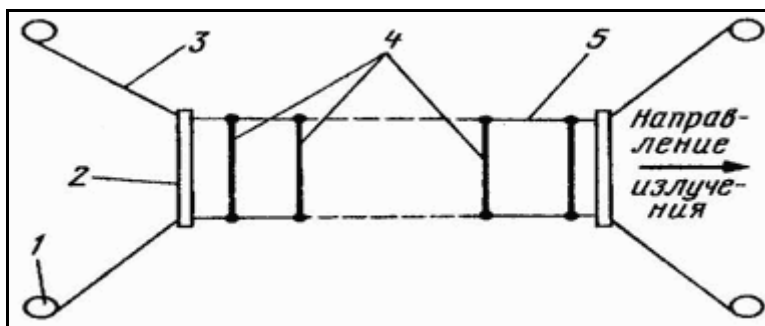

Figure 6
For proving the constructive reliability You can put a pair of supporting frames (2) made from wood protected against moisture (Figure 6) at the ends of lines (5) which are fastened to frames in their corners.